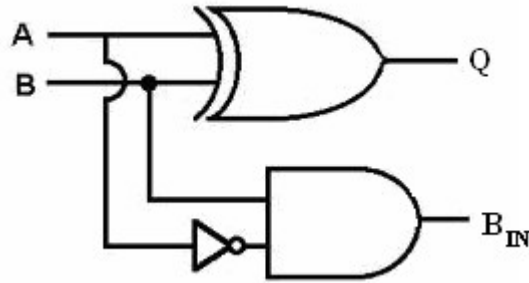

Fig. 5: Truth table and schematics for half subtractor circuit
In a similar fashion subtraction can be performed using binary numbers. The truth table for a single bit or half-subtractor with inputs A and B is given below along with its circuit diagram (Fig.5). A full subtractor circuit accepts a minuend (A) and the subtrahend (B) and a borrow (B_{IN}) as inputs from a previous circuit. A full subtractor circuit can be realized by combining two half subtractor circuits and an OR gate as shown in Fig. 6.